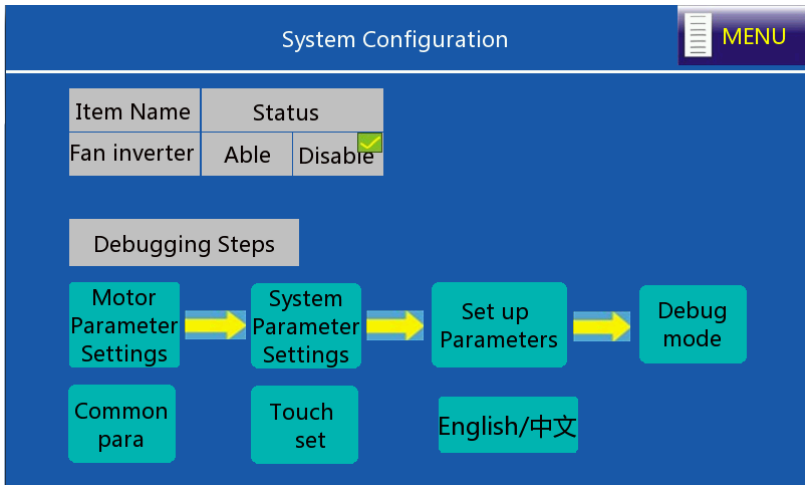

Figure 4-5 System configuration interface
5. Click **System config** on the touch screen to enter the system configuration interface, as shown in Figure 4-5.